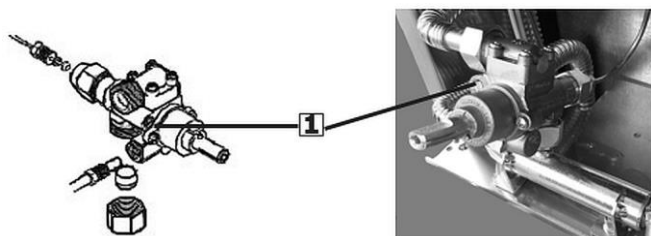

Fig. 10
1. Remove the rotary control and set the minimum or bypass screw **1** (Fig. 10).